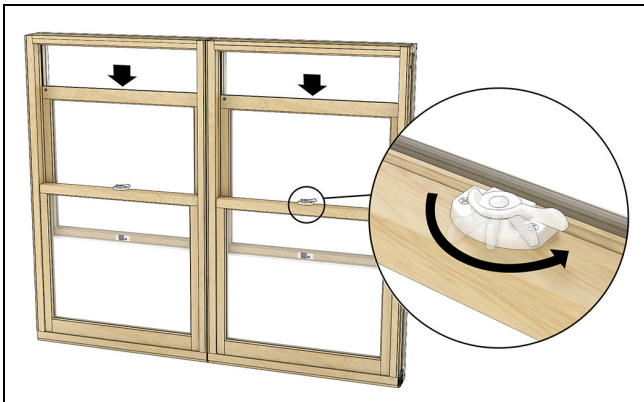

Figure 15
1. **Vertical Mulls:** Open and unlock the sash. See Figure 15.